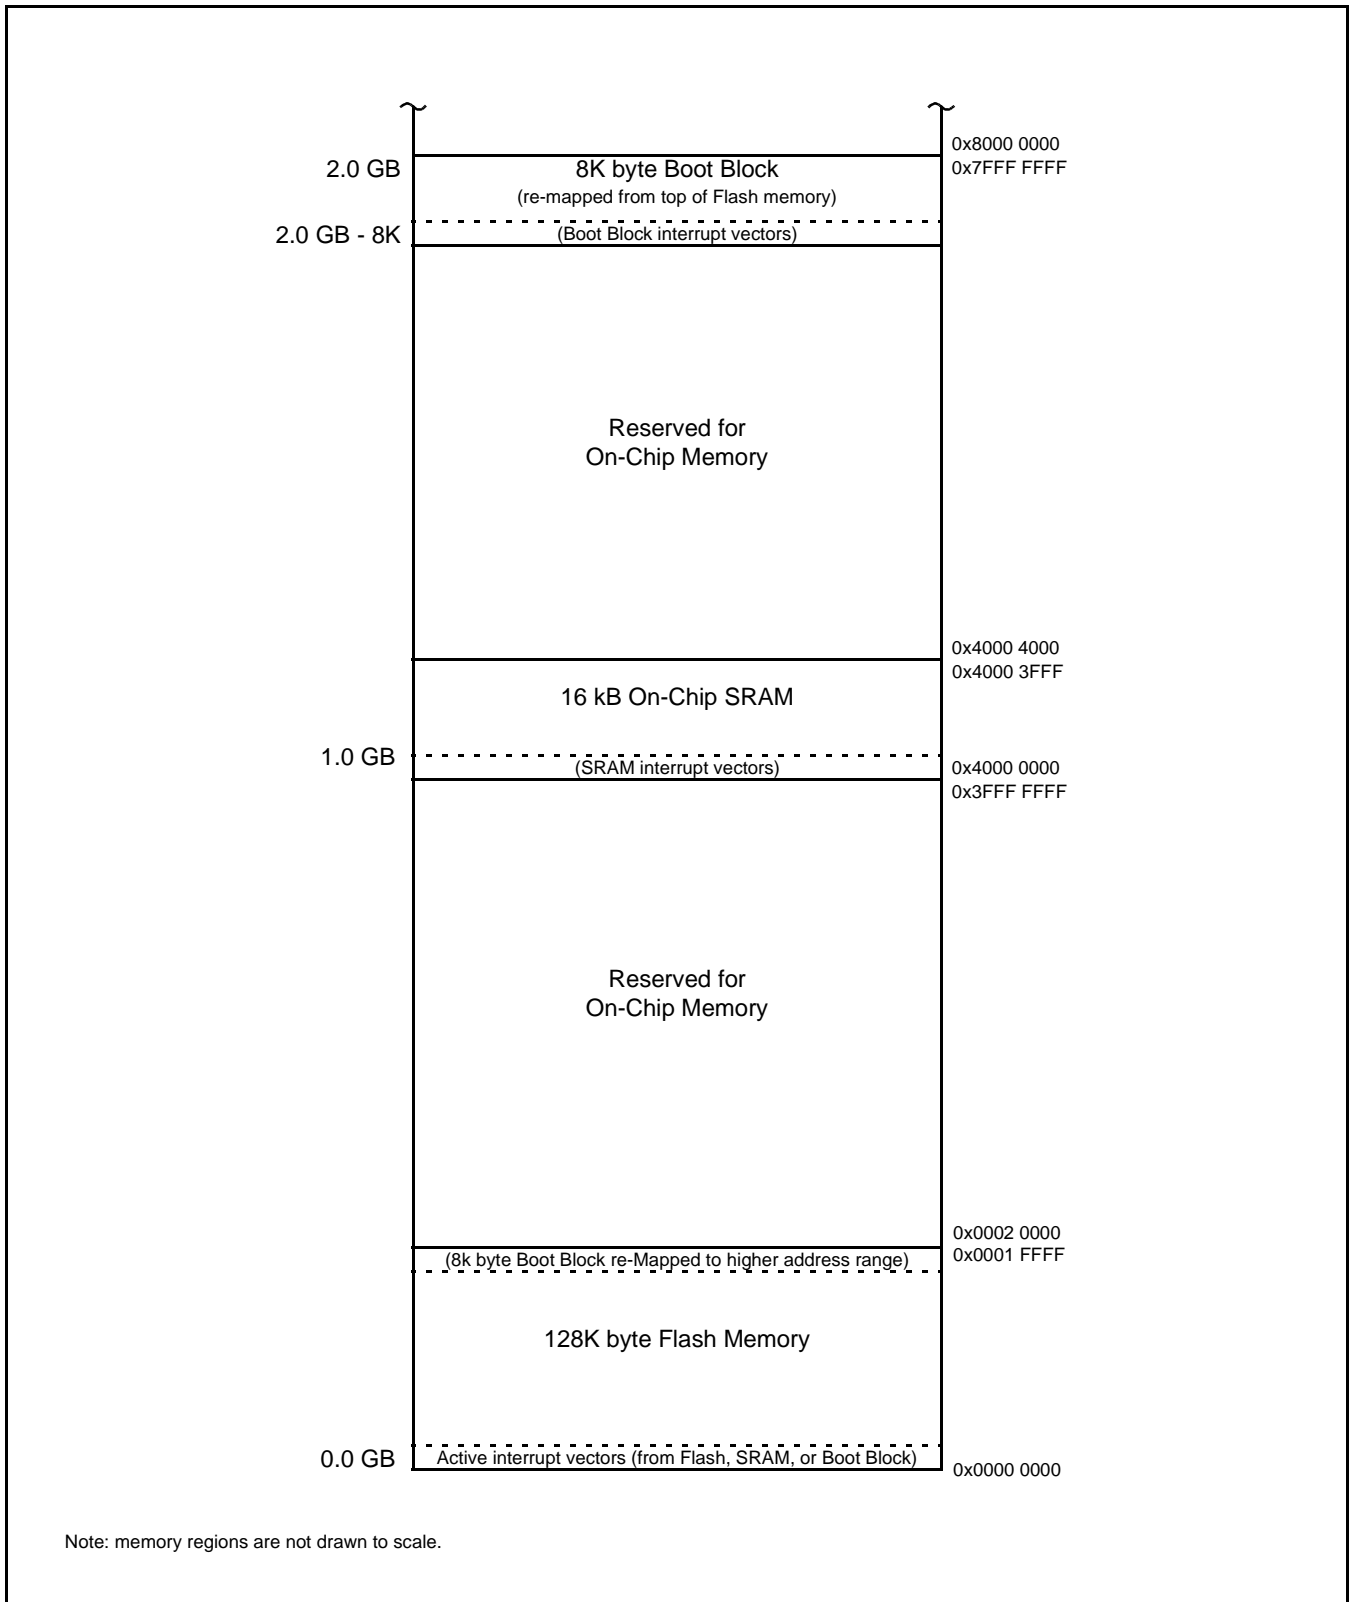

Figure 6: Map of lower memory is showing re-mapped and re-mappable areas (128 kB Flash).
In order to allow for compatibility with future derivatives, the entire Boot Block is mapped to the top of the on-chip memory space. In this manner, the use of larger or smaller flash modules will not require changing the location of the Boot Block (which would require changing the Boot Loader code itself) or changing the mapping of the Boot Block interrupt vectors. Memory spaces other than the interrupt vectors remain in fixed locations. Figure 6 shows the on-chip memory mapping in the modes defined above.
- Address space between On-Chip Non-Volatile Memory and On-Chip SRAM, labelled "Reserved for On-Chip Memory" in Figure 2 and Figure 6. For 128 kB Flash device, this is memory address range from 0x0002 0000 to 0x3FFF FFFF, while for 256 kB Flash device this range is from 0x0004 0000 to 0x3FFF FFFF.